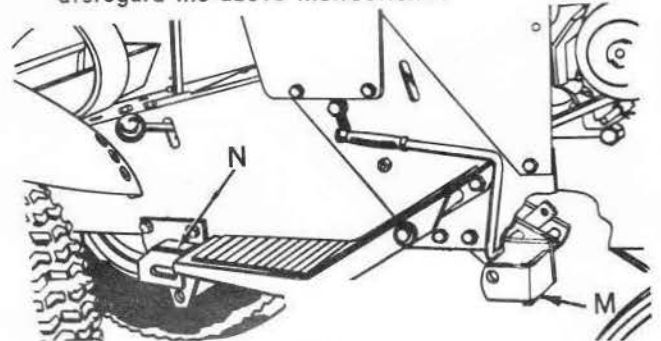

FIG. 7
10. Refer to Fig. 7. Install belt tightener lever and hanger weldment (M) to R.H. side of tractor, as shown. Front attaching bolt is in tractor frame. Rear attaching hex bolt 3/8 x 1 1/4, lockwasher, and hex nut will be found in plastic bag. If your tractor came equipped with a belt tightener lever, disregard the above instructions. NOTE: Lever and hanger weldment L.H. front is not included with mower.
11. If your tractor does not have rear hanger weldment equipped with attaching brackets (N); Remove the one that is on the tractor, and replace with new style. Order cat. no. 25391 for Suburban, or cat. no. 25392 for Hydro-trac tractors.